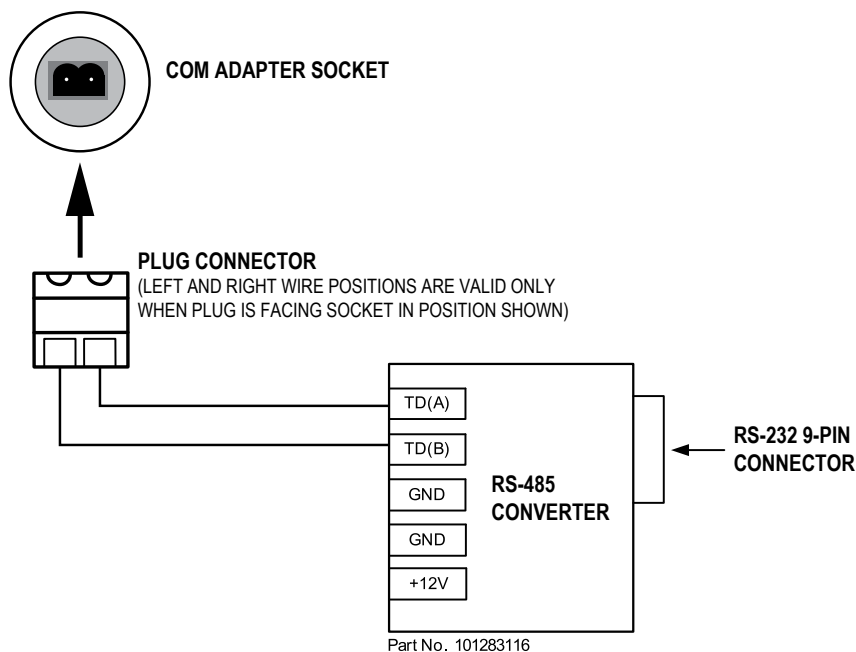

Figure A.3—Wiring of plug connector to Cameron 9-pin RS-232 to RS-485 converter cable
The adapter is shipped pre-assembled in the Scanner 2000 when it is ordered with the unit. The installed adapter is comprised of an RS-485 adapter socket, a blanking plug, and a union nut. A plug connector that mates with the RS-485 adapter socket when the adapter is in use is shipped with the device (uninstalled). This plug connector should be wired to an RS-485 converter cable, and stored with the cable when the COM adapter is not in use. Wiring instructions for connecting the plug connector to an RS-485 converter cable are provided in Figure A.3, page A-2.
2. Connect the plug connector to an RS-485 converter cable, if it is not already attached (Figure A.3).